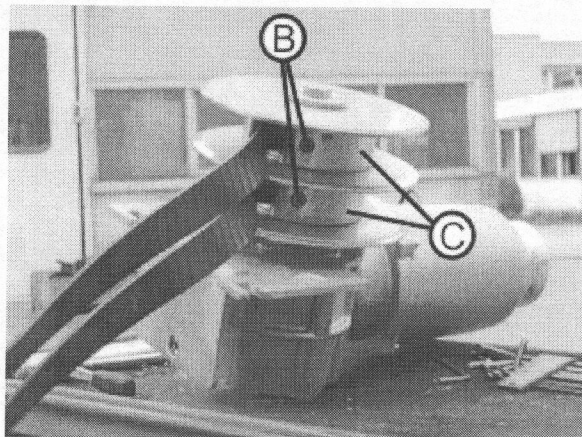

Fig. 053
6. Loosen the 4 clamping plates (C) with the screws (D) (Fig. 053).
- During assembly, ensure the correct coiling direction (Fig. 053).
- Make sure that the grooves of the lifting belts are on the inner side (Fig. 053).
- Make sure that the clamping plates (C) are mounted with the rounded end at the belt outlet (Fig. 053/055).